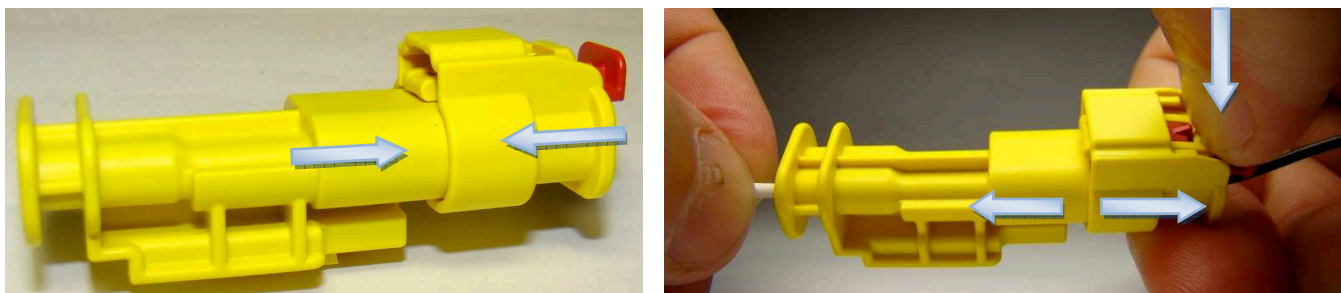

Figure 3
3. Depress the CPA latch with your thumb and hold it down while gently pulling the connector halves apart. See Figure 3.